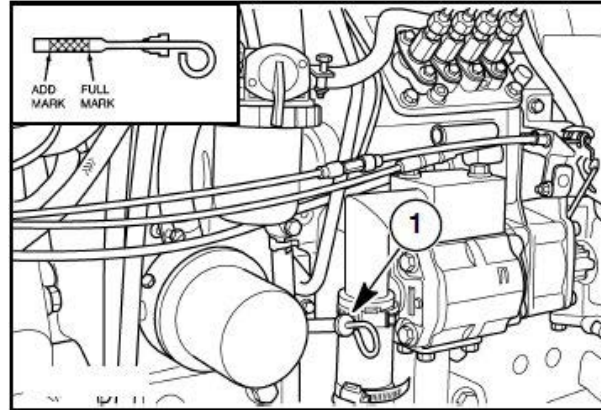

Figure 3-3
1. After the engine has been stopped for a period of time, and with the tractor standing level, check the oil level using the dipstick (1) in Figure 3-3.